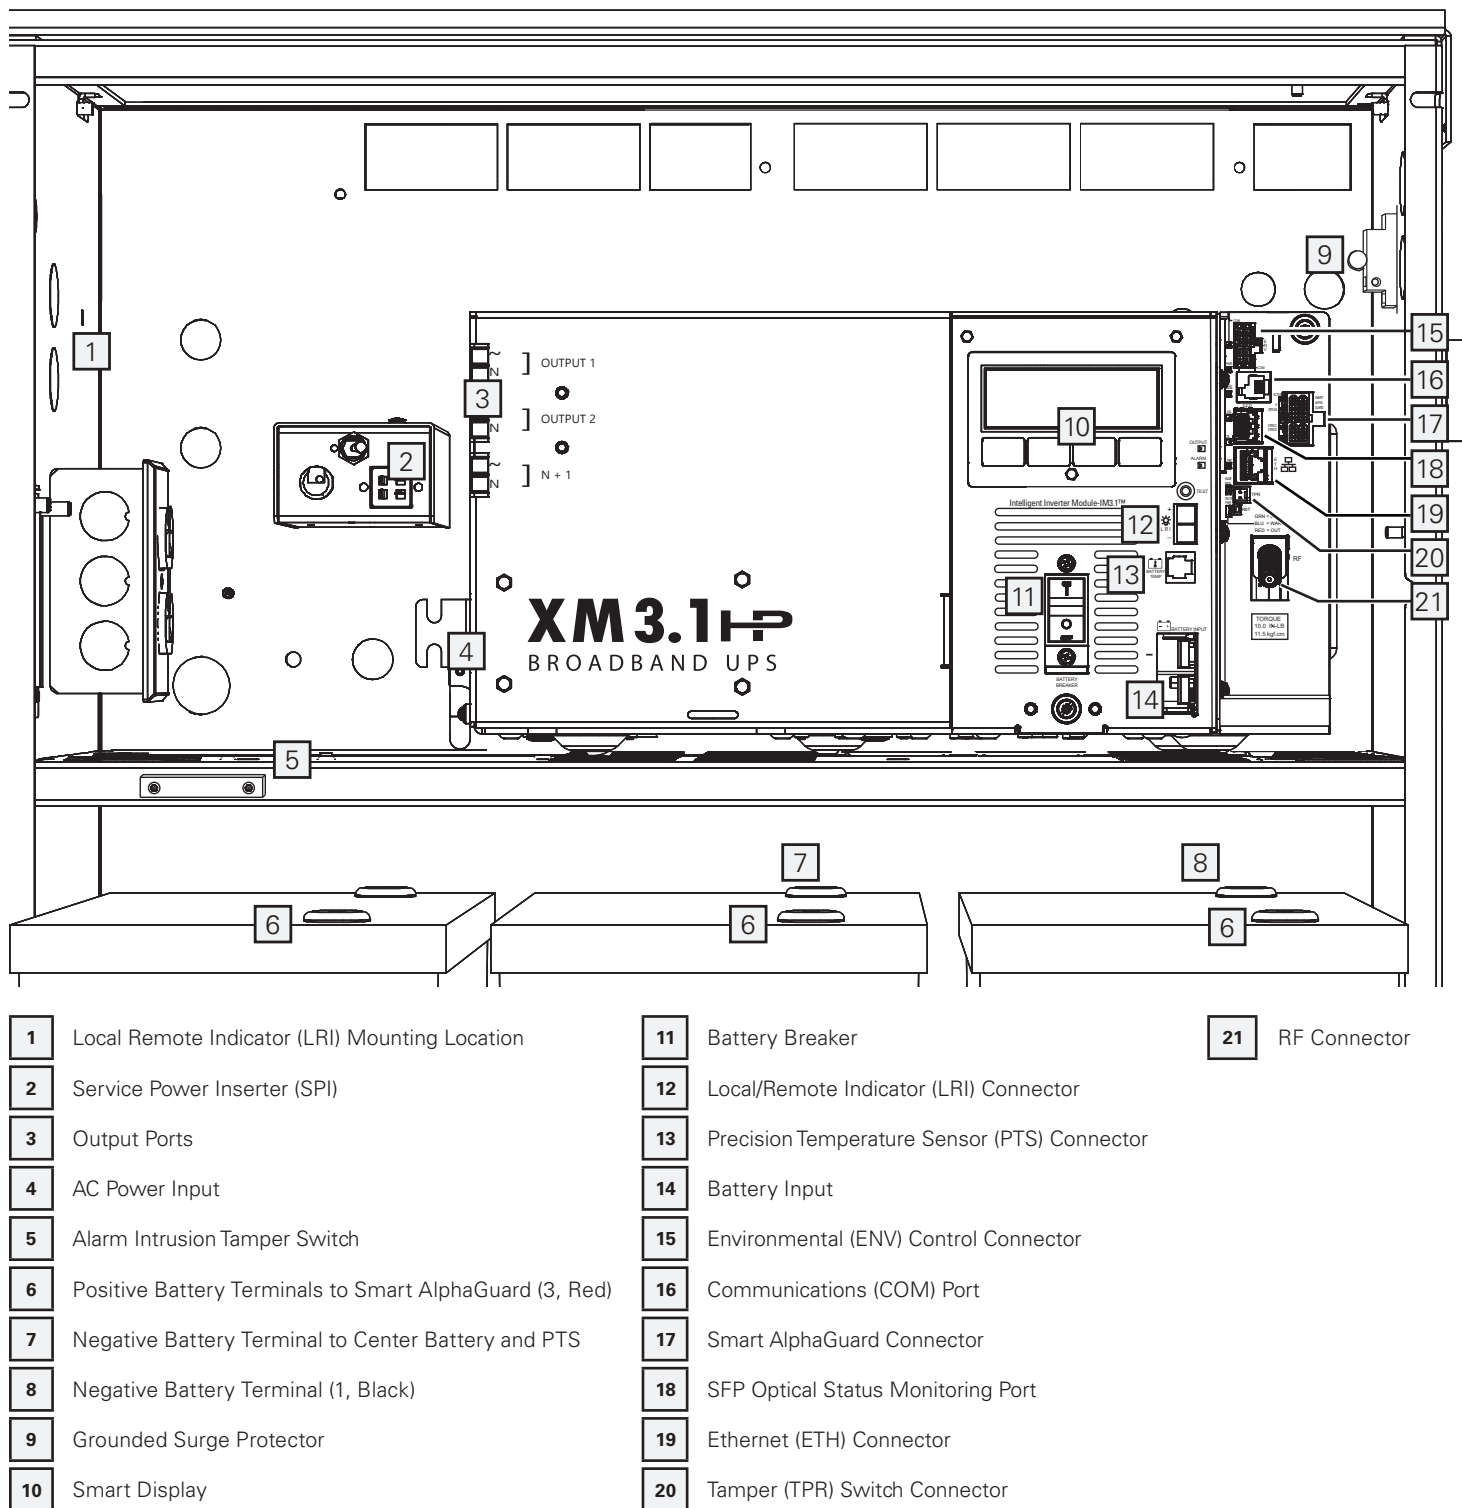

Fig. 4-1, XM3.1-HP™ Power Supply System Components
- Inspect all cabling and connections of the power supply system (see **Fig. 4-1**). Verify that all cabling is intact and all connectors are properly seated; resolve as needed.